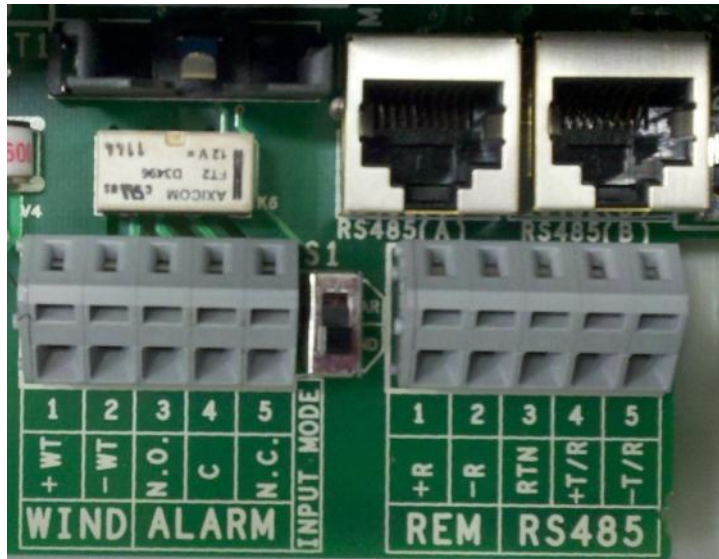

Figure 2:09: Standard RS485 connection
- a. If using CAT5 cable for monitoring connections, connect RJ45 plug to end of cable as shown in Table 3, and plug into RJ45 jack shown in Figure 2:09; a second jack is in parallel to accommodate daisy chaining of communication line to other inverters.
- b. If using standard multi-wire RS-485 cable connect the three RS485 leads (-RTN, +T/R, -T/R) to corresponding points per Figure 2:09.